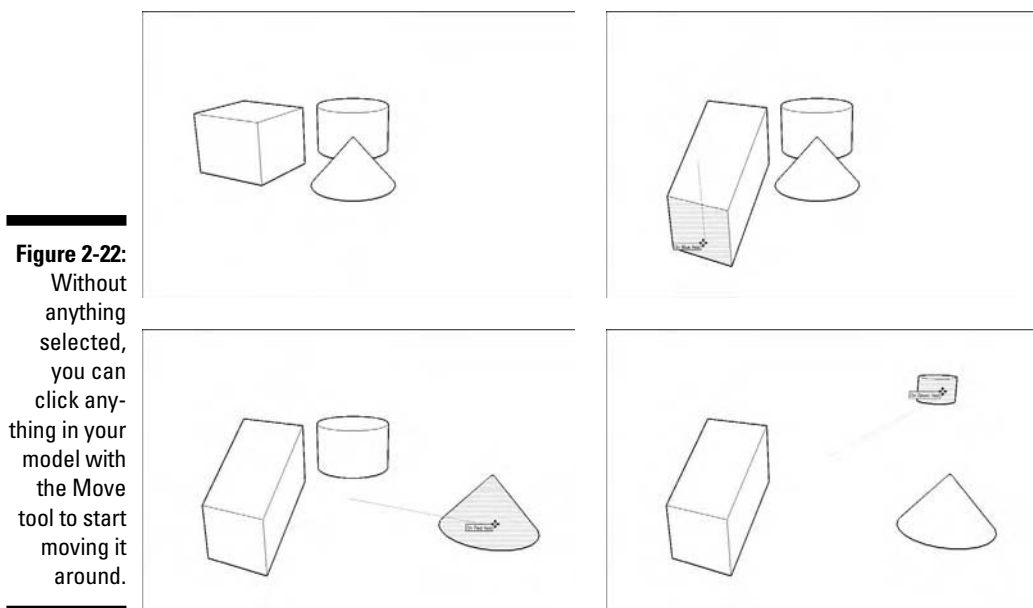

Figure 2-22:
- ✓ **Moving without a selection:** If you don't have anything selected, you can click anything in your model with the Move tool to move it around. Only the thing you click is moved. Figure 2-22 shows what I'm talking about.